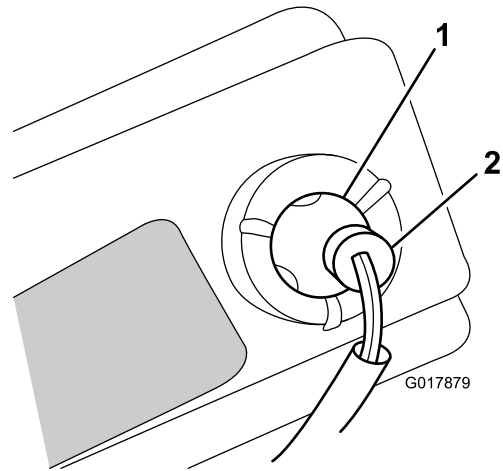

Figure 31
6. Pull out the bulb socket (Figure 31).